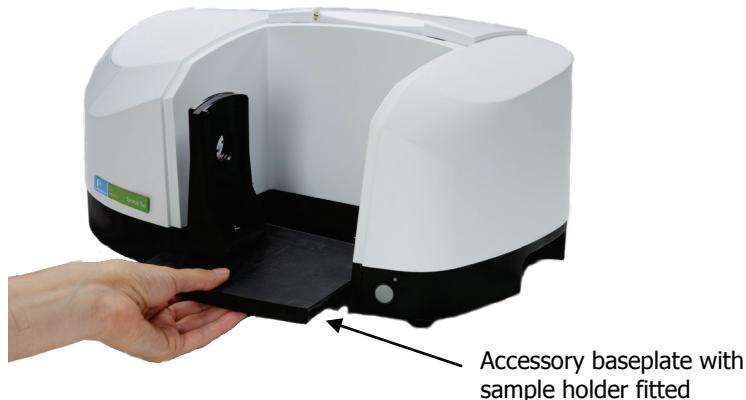

Figure 3 Removing the sampling accessory
2. Pull the baseplate of the current sample accessory towards you, and slide the accessory out of the sample area (Figure 3).